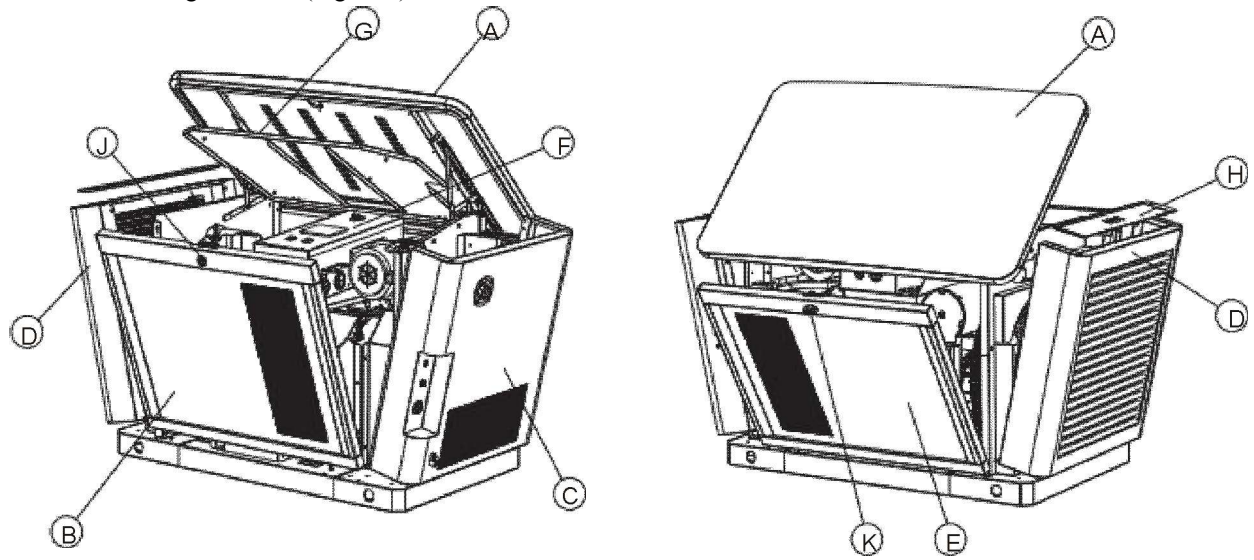

Figure 6
The 3/4 inch (19mm) N.P.T. fuel inlet connector (A) and electrical inlet location (B) are shown in Figure 6.
The generator enclosure has multiple access panels. Access panels and the components located behind them are referenced in the lists and images below (Figure 6):
Open the top cover plate (A, Figure 6):